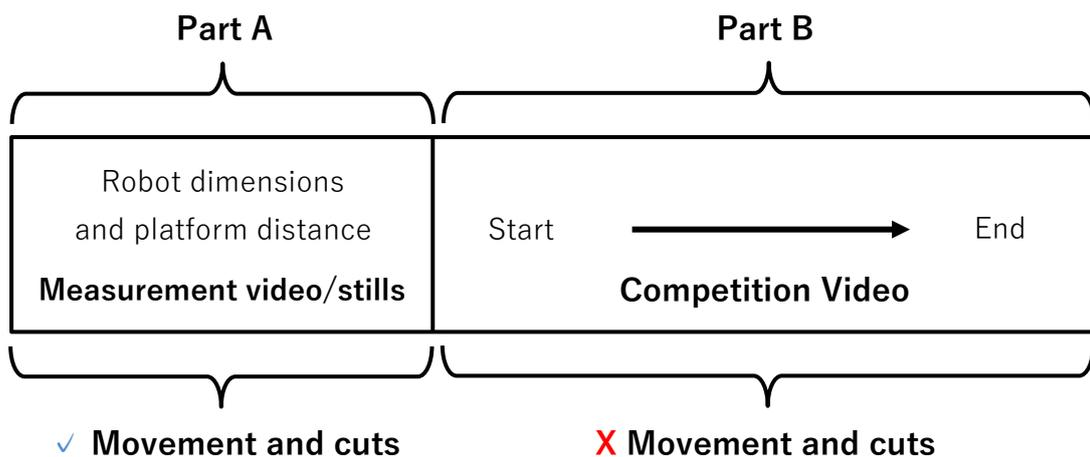

Fig 6. Competition Video Content
- 3) **Part B** must also include no cuts and the camera must not move for the 60 second duration of the round (see **Fig. 6**).